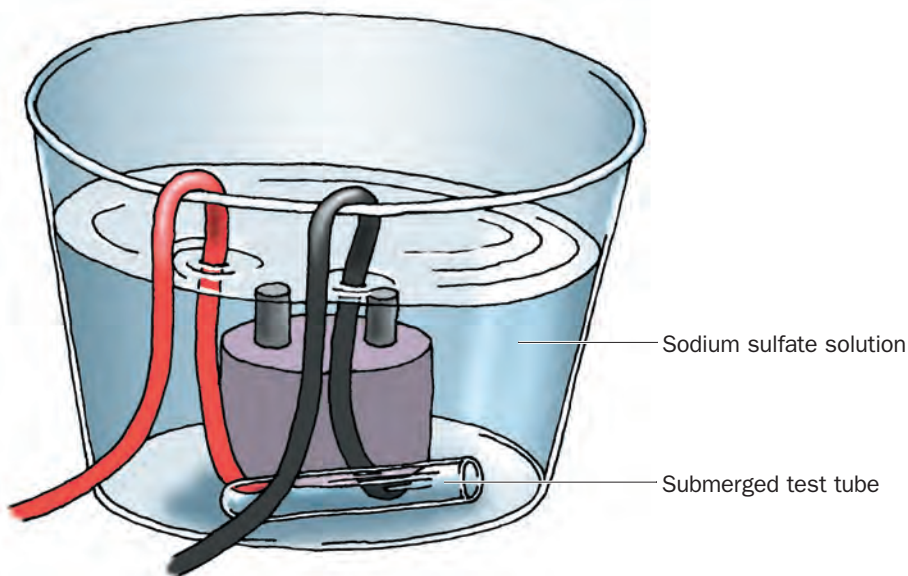

Figure 20.2 Submerge the tube and make sure it is full of sodium sulfate solution.
7. Submerge one of the test tubes in the container of sodium sulfate solution (see Figure 20.2).